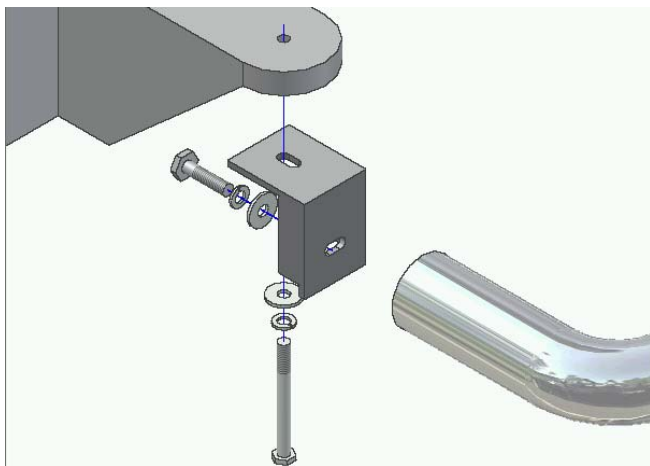

Figure 1.2 – Front Bracket
2. From underneath truck, loosen and remove body mount bolts that run upward through mounts into floorboard. Attach and secure Front Mount Bracket to underside of vehicles front body mount (see Figure 1.2) with (1) M12 – 1.75 x 120mm bolt, (1) ½" split lock washer, and (1) ½" flat washer. Hand Tighten.